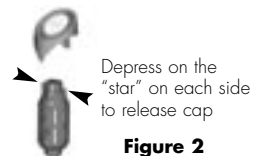

Figure 2
3. Press the tabs in on the sides of the Module using the helpful “star” identification marks as your pressing points and remove the top cap as shown in Figure 2. Save the cap and discard the Module.